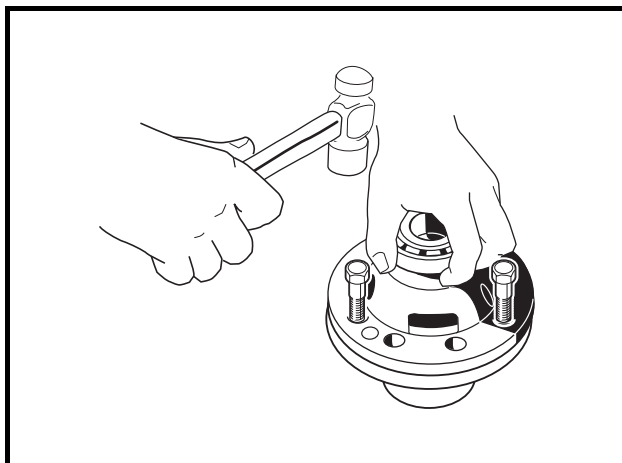

Figure 17-14 Separate Housing
- 8.3. Separate the differential gear case housing. If necessary, install two of the hex bolts (removed previously in step 8.1) into the differential gear unit and, while holding the unit slightly above the work area, lightly tap the bolt heads (**Figure 17-14, Page 17-8**). Remove the two bolts.